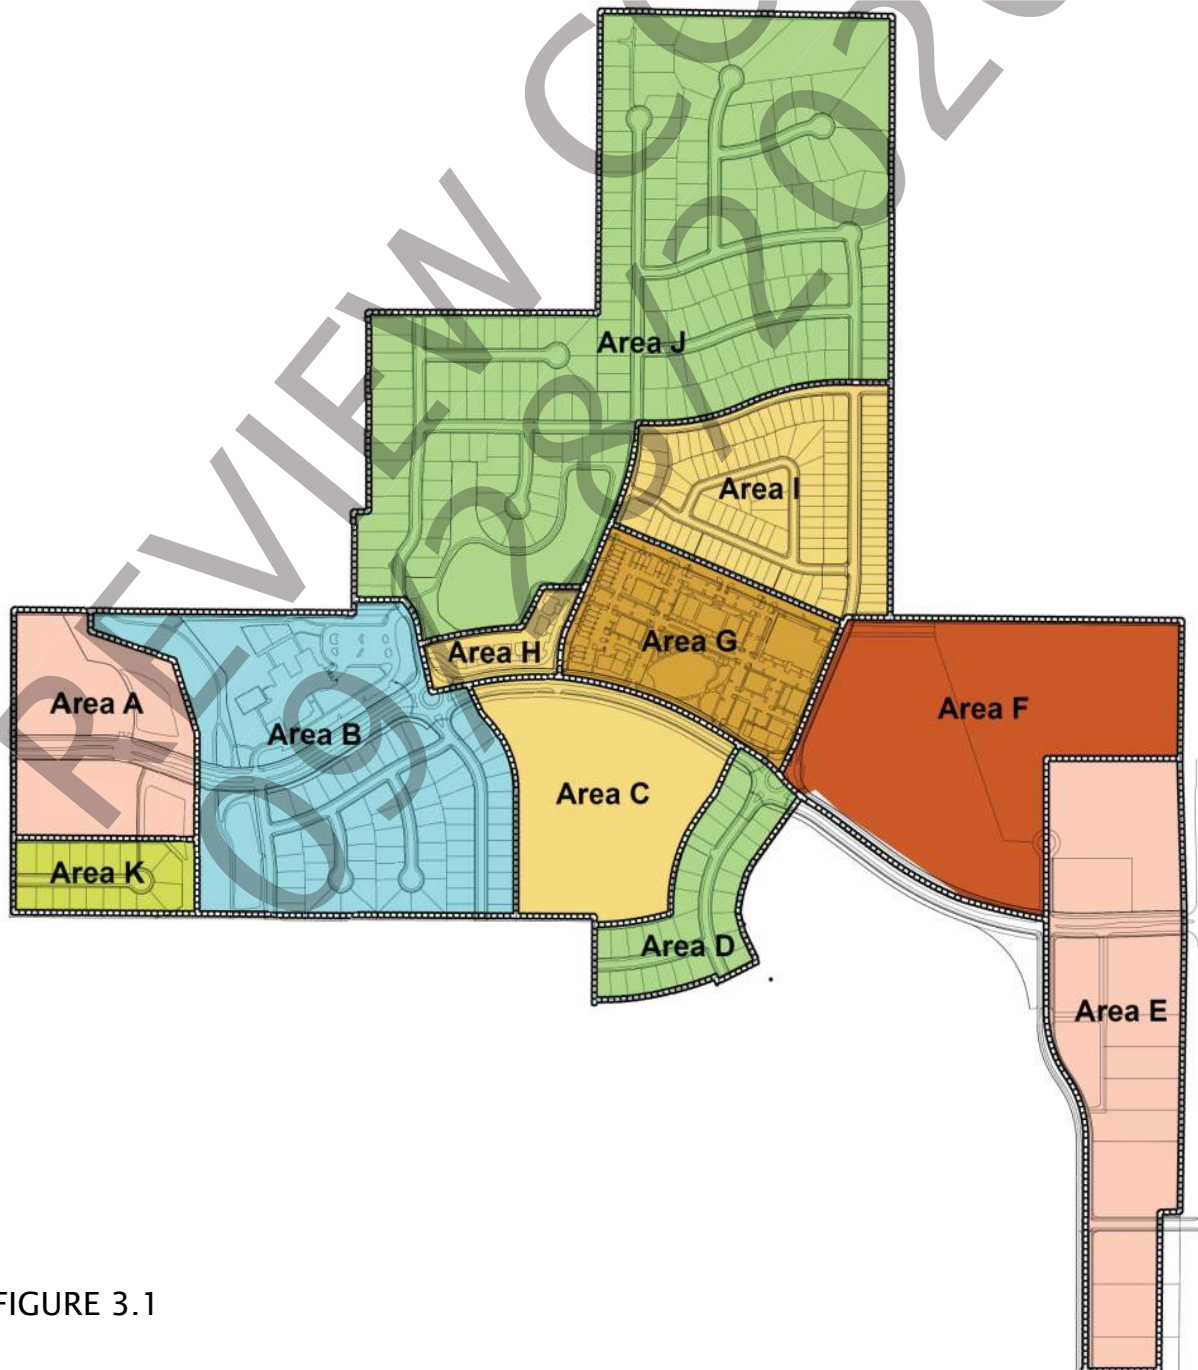

FIGURE 3.1
The basis for Land Use and Bulk Regulations will generally follow the City of Grimes Zoning Ordinance, Chapter 165 of the City Code. Deviations from the Zoning Ordinance shown in this PUD will govern throughout the Heritage at Grimes Development. Heritage at Grimes is divided into 10 different areas. Listed below and shown in Figure 3-1 are the designations for each of the different areas.
1. Principal Permitted Uses Only the uses of structures or land listed in this section are permitted in the Single Family Residential portions of Heritage at Grimes - designated as Area B, D, J, & K in Fig. 3.1
- B. Churches, chapels, temples, and similar places of worship, provided that all principal buildings be set back a minimum of forty (40) feet from all property lines
- C. Public and parochial schools, elementary and secondary, and other educational institutions having an established current curriculum as ordinarily given in the public schools, provided that all principal buildings be set back a minimum of forty (40) feet from all property lines
- B. "Heritage at Grimes" shall mean and refer to the real property as shown in Figure 3.1.
- D. "Lot" shall mean and refer to all Single Family Residential Lots as shown in Figure 3.1.
LOCATION (REFER TO FIGURE 3.1)	TYPE